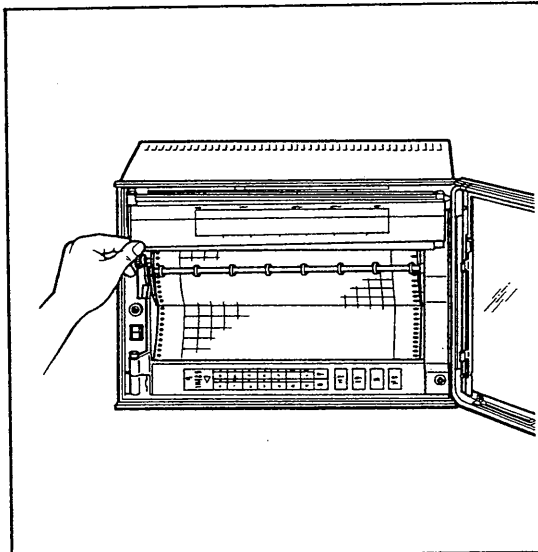

Figure 5-18.
- (2) Hold the lower left corner of the display panel and pull it open (see Figure 5-18).